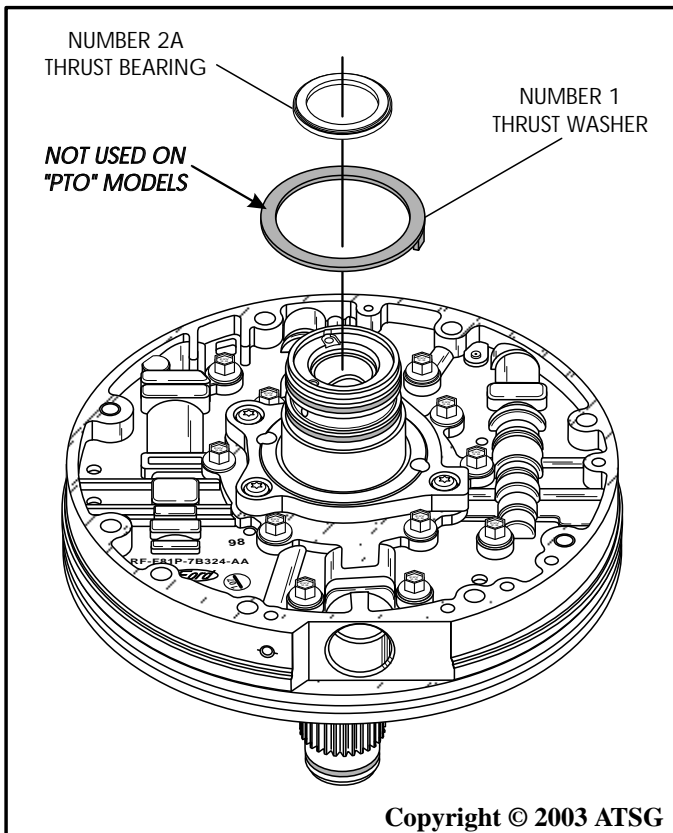

Figure 170
20. Install the number 1 thrust washer, as shown in Figure 170, and retain with Trans-Jel®, if you are building a unit that is not PTO equipped.
21. Install the number 2A thrust bearing in the direction shown in Figure 170, and retain with Trans-Jel®.